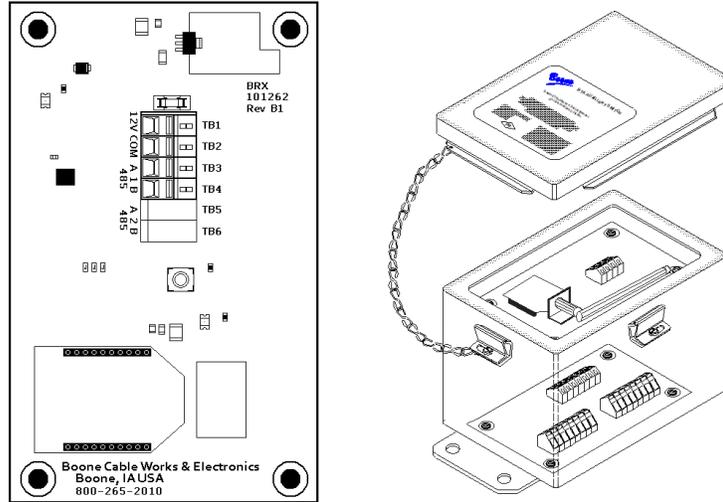

Figure 5. BRX Module board with BTX & BRX Module in enclosure
4.1.3. BRX module Board; This board is used for connecting the BTX module to a wireless Gateway. (See figure 5). There is a 4 terminal block which consists of a power input (12V DC and common) and a 485 output (A & B).